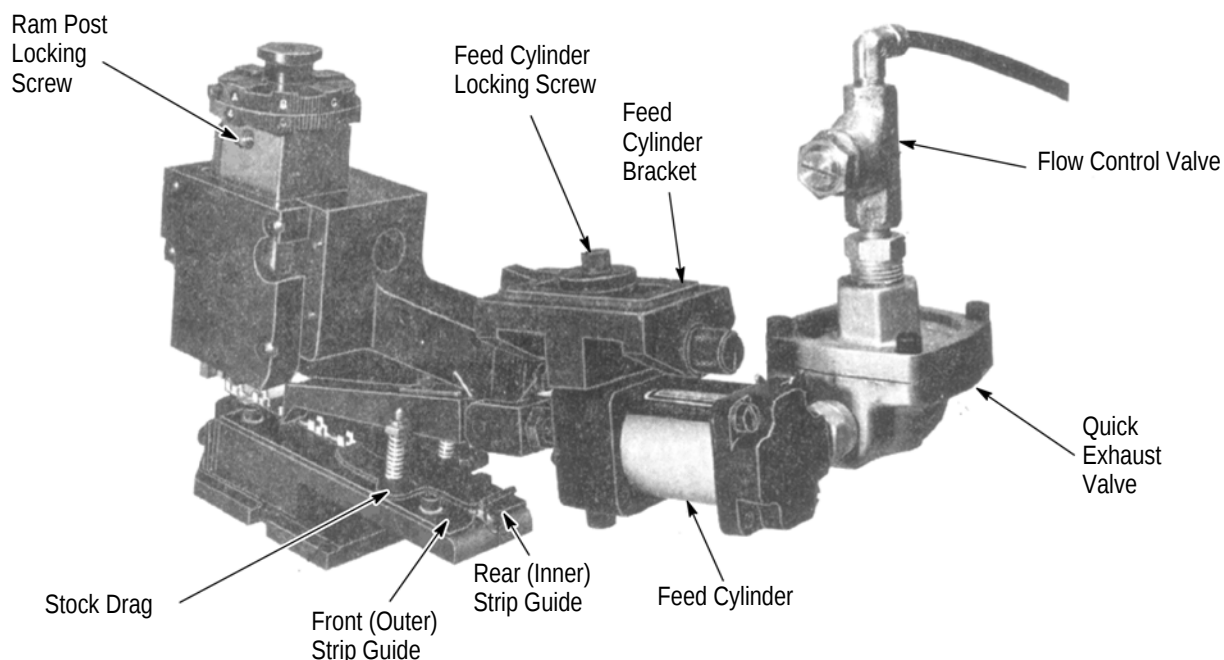
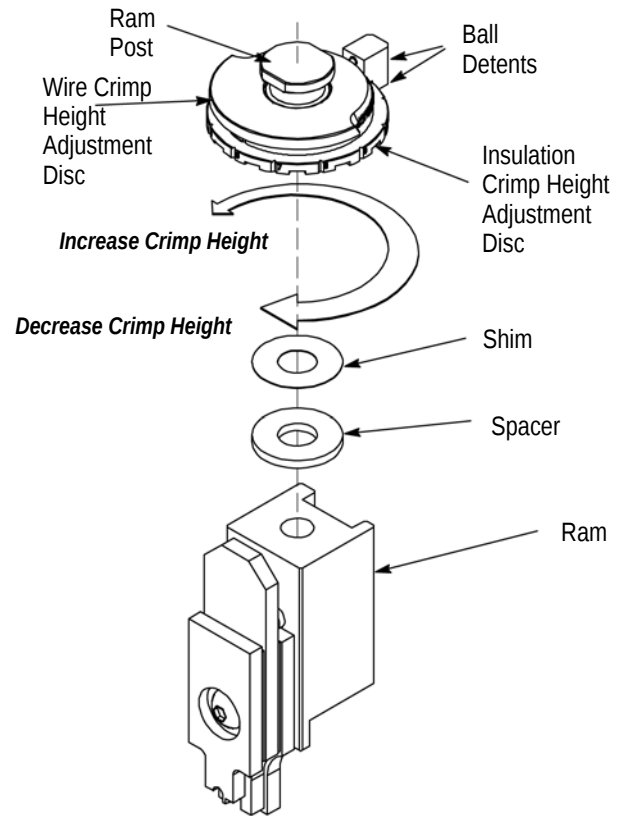

Figure 6
Figure 7
- 1) Loosen slightly the feed cylinder locking screw on top of feed cylinder bracket (see Figure 6).
Fine Adjust Assembly 879103-[ ] is factory installed and should require no further adjustment. If the assembly must be removed from the ram, be sure to loosen ram post locking set screw (Figure 6). The ram post can then be removed. Upon re-assembly, be sure that the two ball detents on the fine adjust assembly are aligned with the centerline of the insulation crimper and oriented relative to the front of the tooling (as shown in Figure 7). Ensure that the correct spacer (as per the appropriate applicator log) is re-assembled. Be sure that the ram post and ram post locking set screw are tight before re-installing the applicator into the appropriate terminating unit.